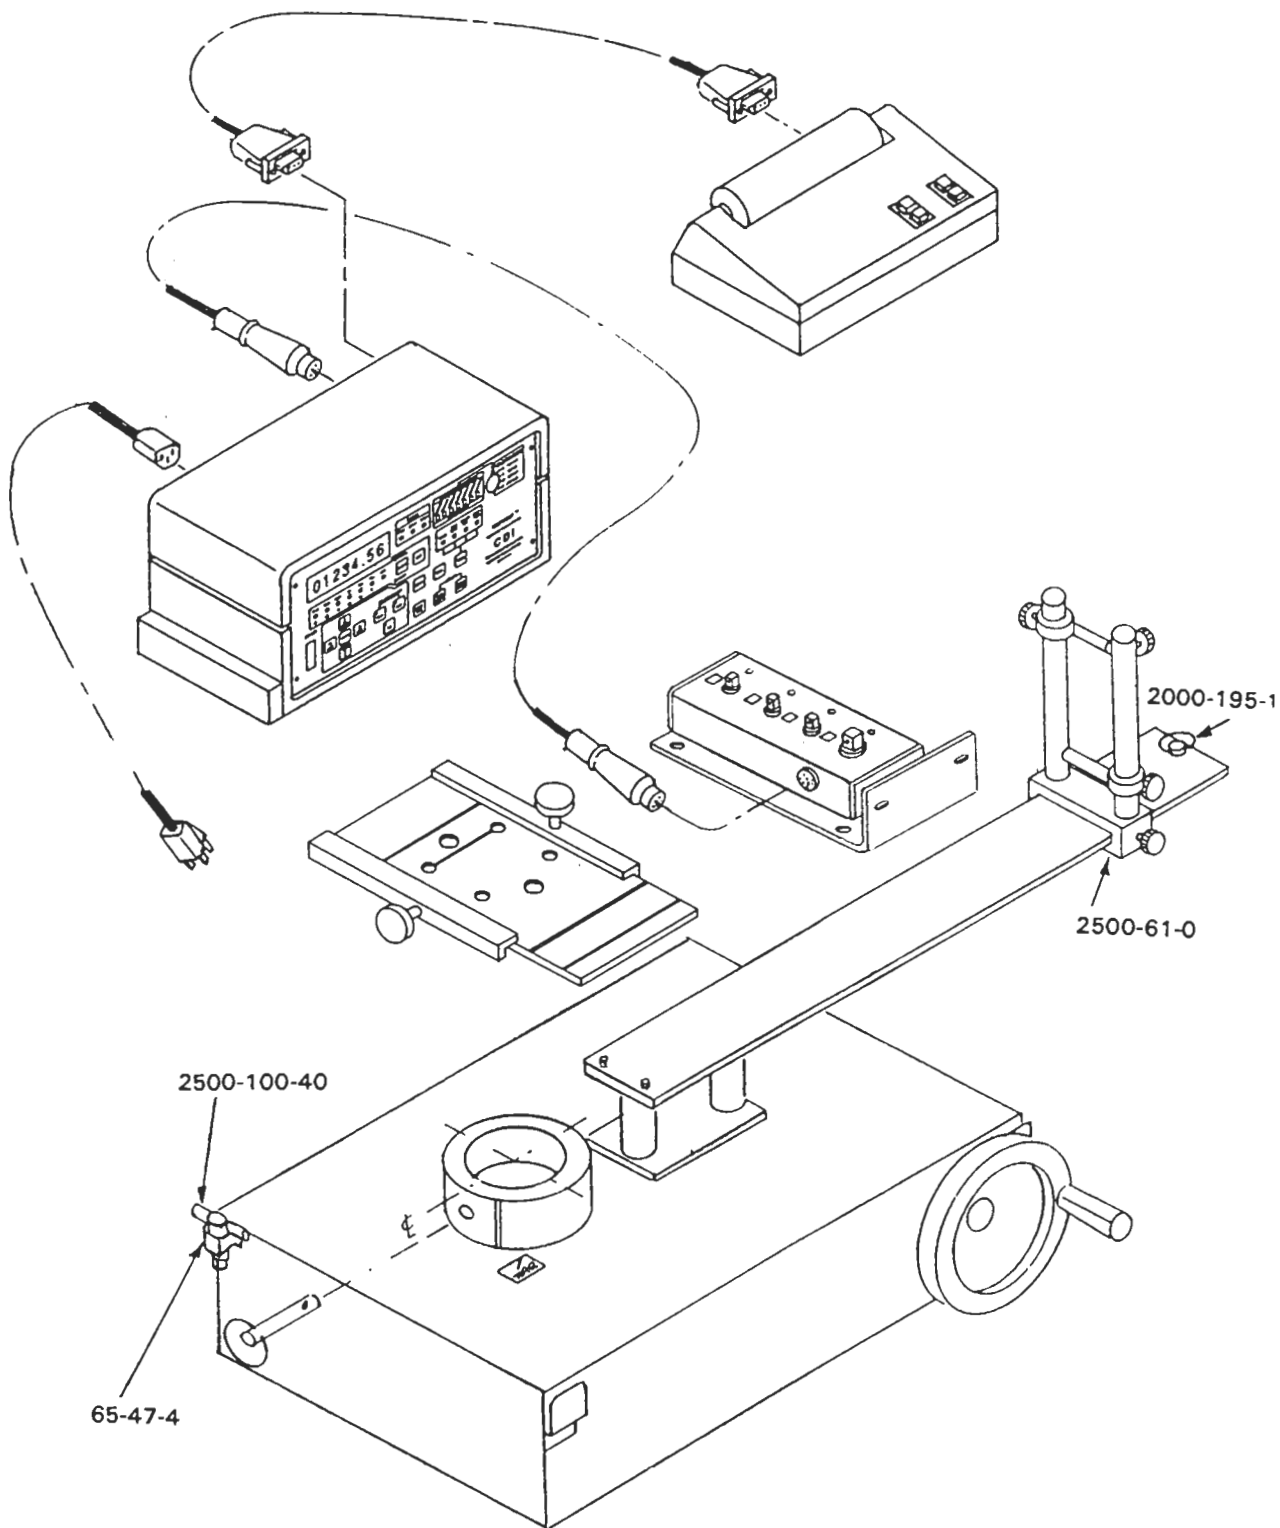

Figure 1-2. Low Torque Station
1.5.2 Low Torque Station (See Figure 1-2). *2000-0-4*